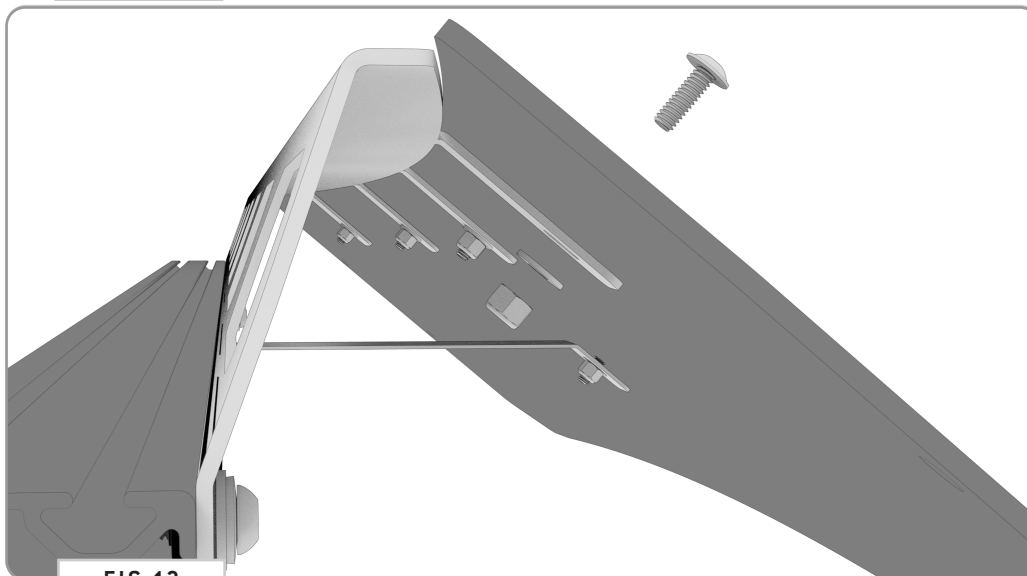

FIG 13
4.5 Attach Front Fairing: Attach the **Front Fairing** to the Assembly using **1/4-20 x 0.75 Flanged Button Head Screws**, **Flat Washers** and **Nylon Locknuts** (**FIG 13**).